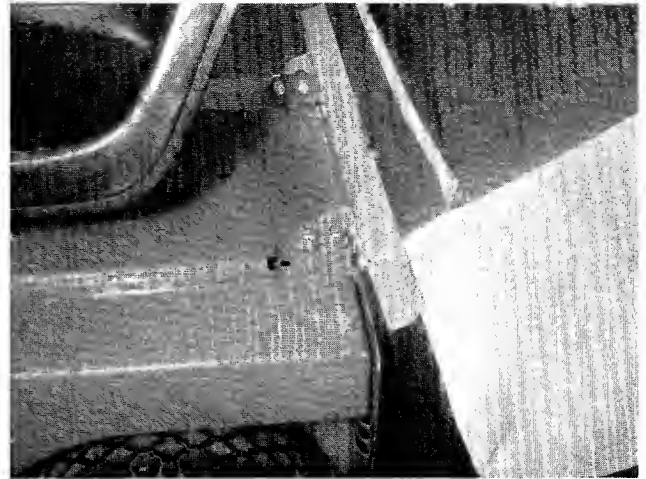

FIGURE 14.
8. Assemble the grass catcher to riding mower. See figure 14.